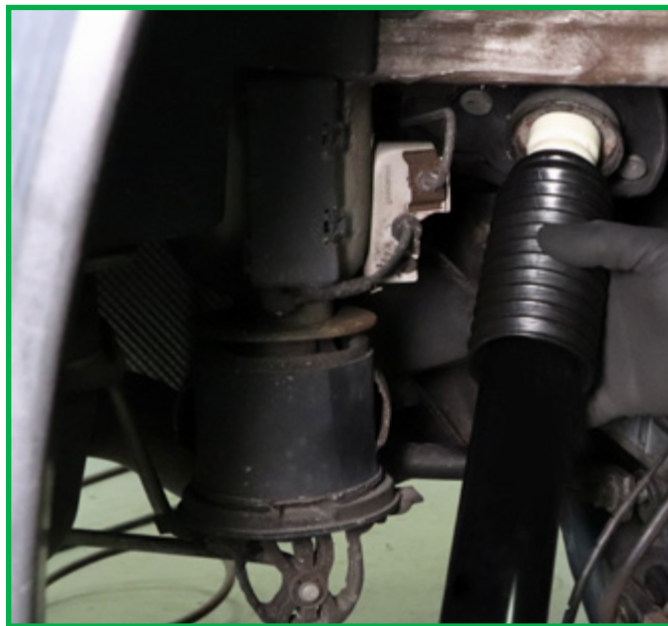

FIGURE 26
5. Remove the shock from the vehicle. (Figure 26)